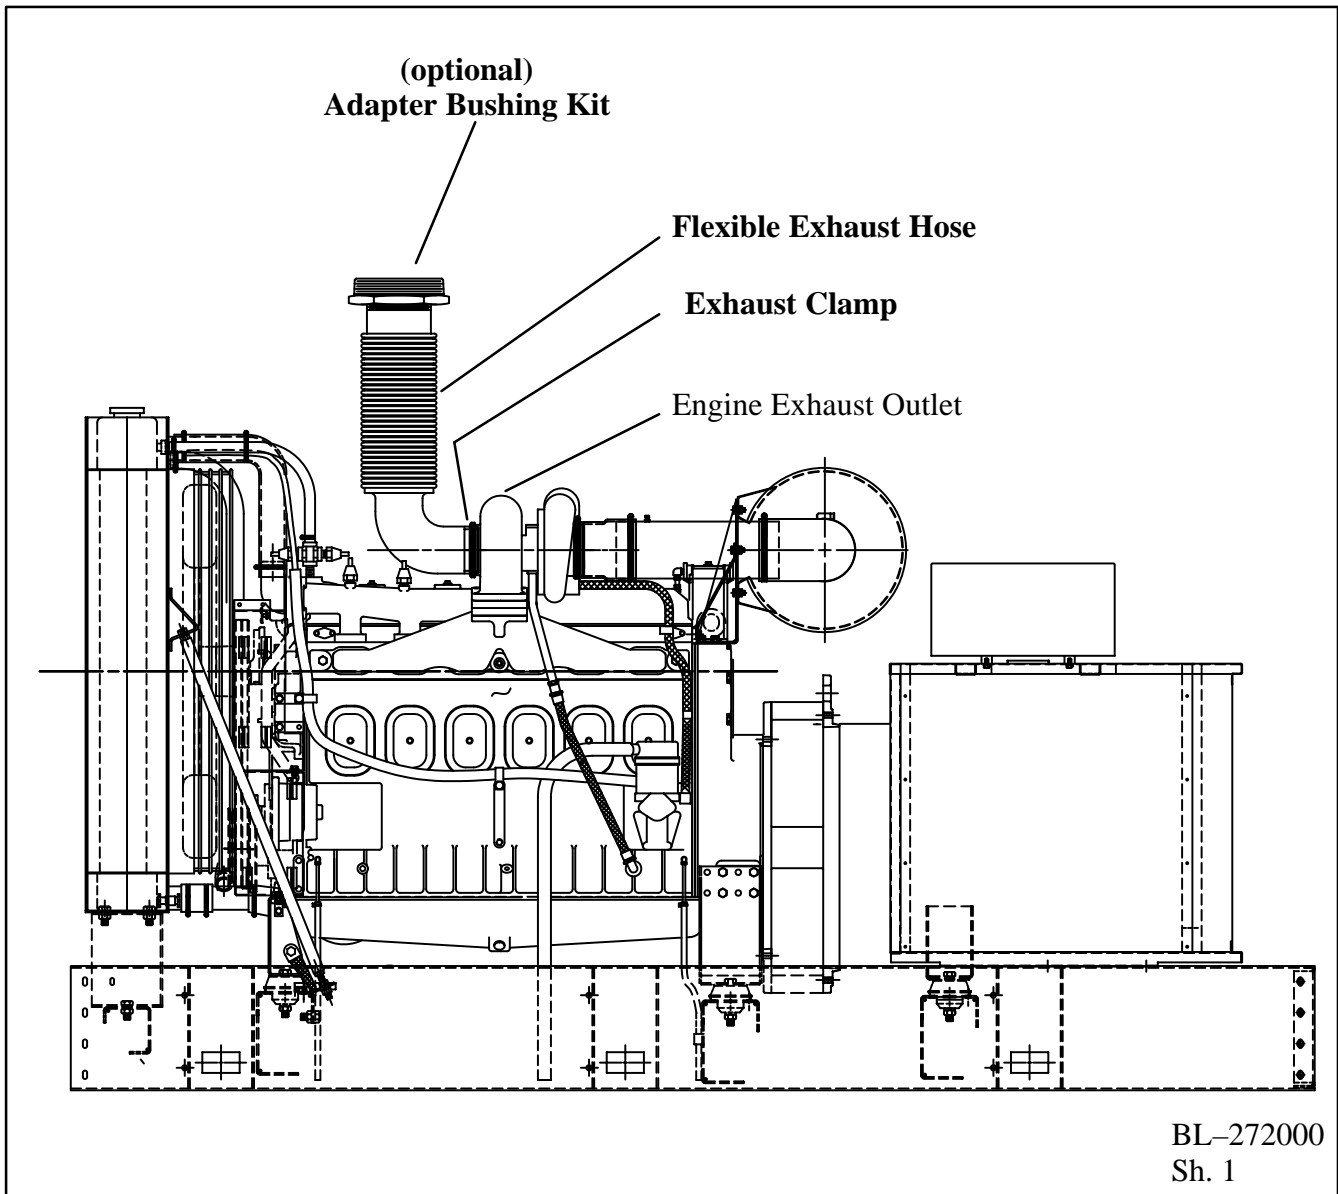

Figure 1. Flexible Exhaust Hose and Adapter Bushing Installation (typical)
2. Coat mating surface of flexible exhaust hose with a small amount of high temperature anti-seize compound. Do not allow anti-seize compound to contact turbocharger internal components (if used). Position flexible exhaust hose on engine exhaust outlet with open end aligned with silencer/exhaust system. See Figure 1 for components.